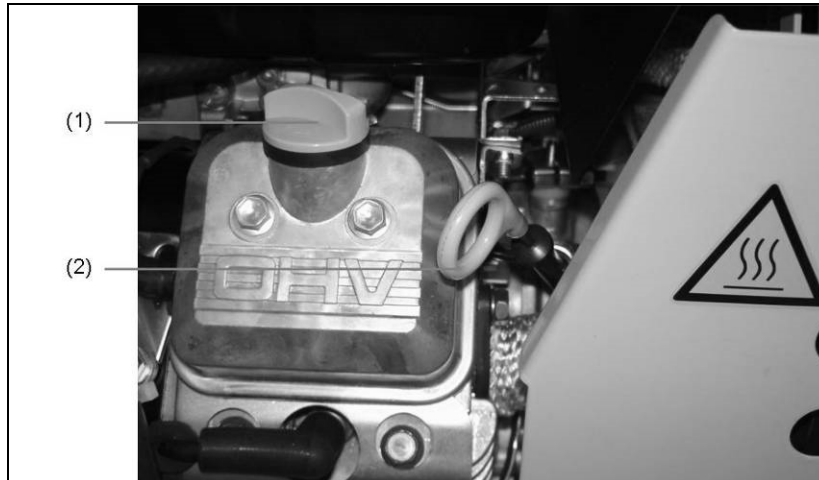

Fig. 6-2: Oil dipstick
1. Pull out the dipstick (*Fig. 6-2-(2)*) and wipe it off with a clean cloth.
1. Remove oil screw plug (*Fig. 6-2-(1)*). Pull out the dipstick for easier filling (*Fig. 6-2-(2)*).
1. Remove the oil filling screw (Fig. 6-2-(1)).